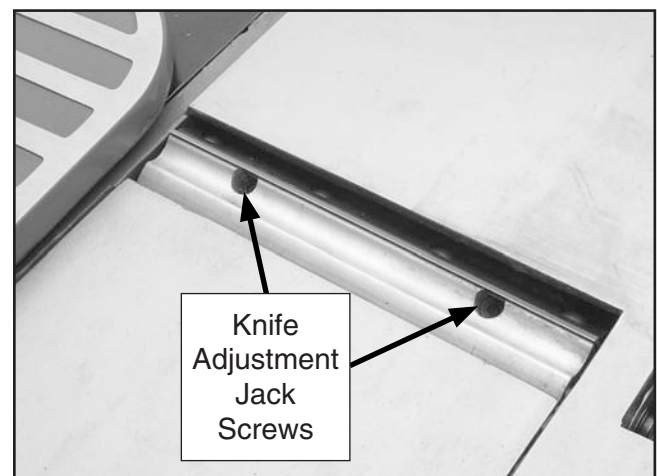

Figure 50. Knife adjustment jack screws.
8. Check the alignment of the knives to the outfeed table. They must be parallel. If the knife is not parallel to the outfeed table, use the knife adjustment jack screws (see **Figure 50**) to fine tune the position of the knife. Refer to **Checking Outfeed Table Alignment on Page 17** for detailed instructions for adjusting the position of the knife.